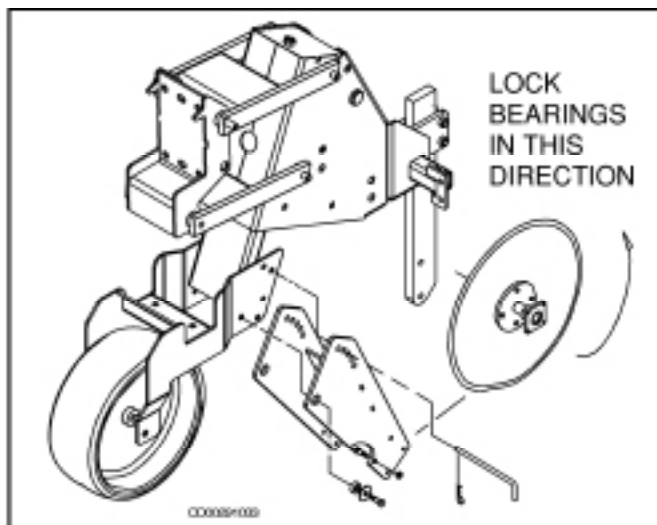

Figure 25 Disc Mount Assembly
4. Lock bearing lock collars in direction of wheel travel (see Figure 25).
2. Mount disc/hub assembly to disc mount weldment, using 3/8 NC x 1-1/2 hex head cap screw as shown in Figure 25.